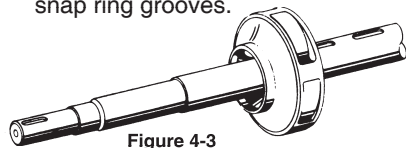

Figure 4-3
3. Assemble the centrifugal impeller (#11IN) and shaft (#17) by sliding the impeller into position with its inlet opening facing the coupling end of the shaft.(refer to figure 4-3) Place one key (#23) into position before centering the impeller between between the two snap ring grooves located nearest the coupling end. Place a drive collar (#14) into each of these snap ring grooves.